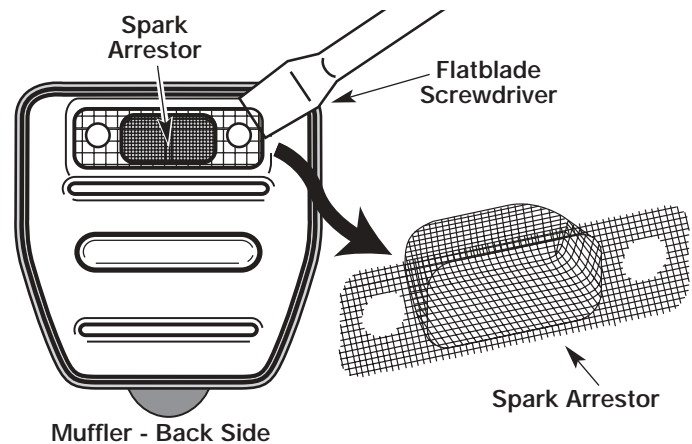

Fig. 40
4. Using a small flatblade screwdriver, carefully pry up the spark arrestor from the recessed hole (Fig. 40). Remove the spark arrestor from muffler.
5. Clean the spark arrestor with a wire brush. Replace it if it is damaged or if it is impossible to clean thoroughly (Fig. 40).